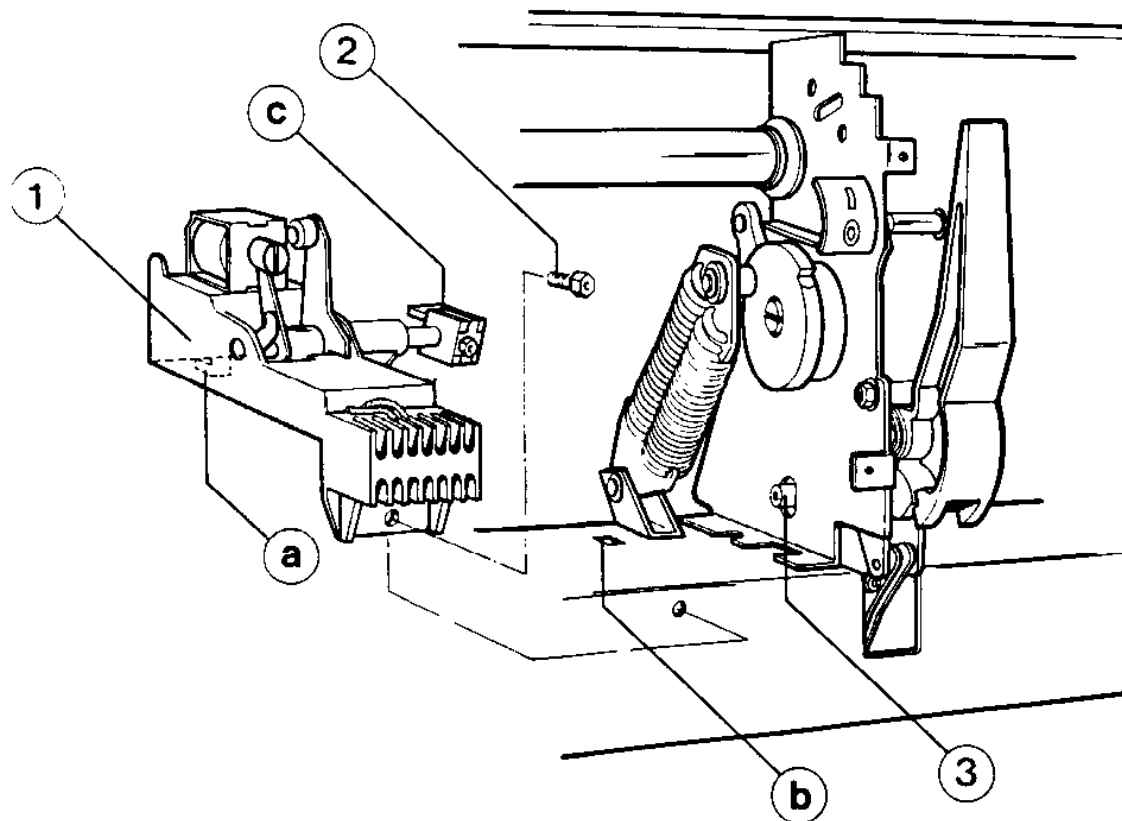

Fig. 28 Installazione dello sganciatore di apertura o di minima tensione
- 2) Insert the appendix (a) of the base (1) into the drilling (b) (see fig. 28) of the cross arm of the operating mechanism.
- 3) Rest the base (1) on the cross arm and lock it by means of the screw (2).
- 4) Make sure that the lever (c) is positioned correctly above the roller (3).